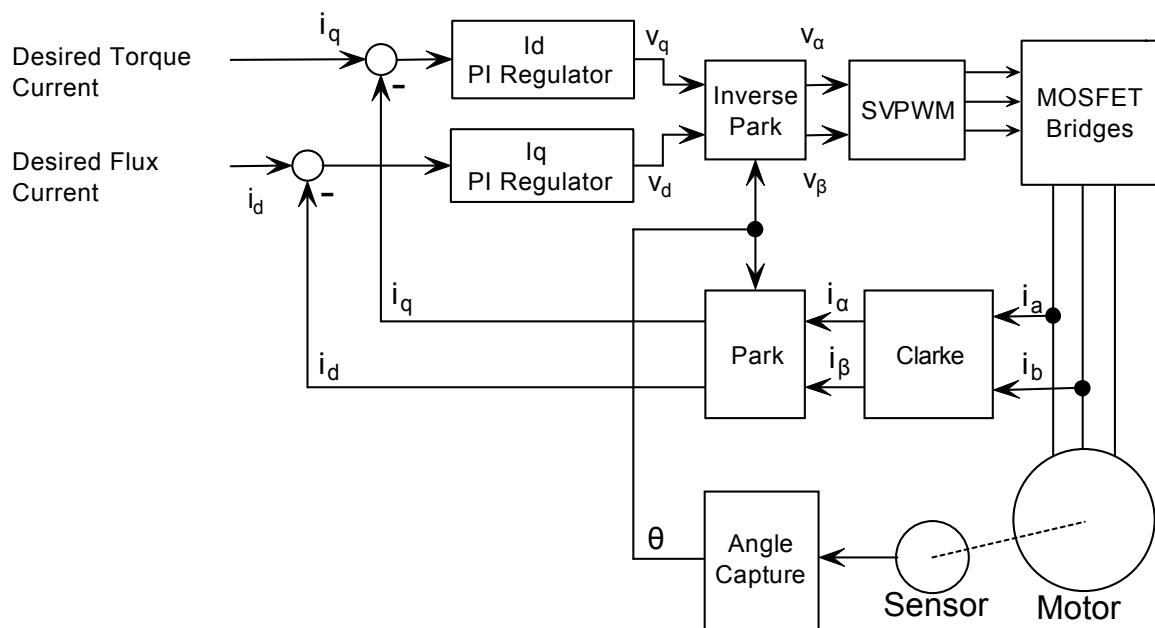

Figure 8-11. FOC operation
Field Oriented Control is available on selected models of Roboteq motor controllers. It uses a classical implementation as described in the figure 8-11. The current in the motor phase is captured, along with the rotor's angle. From this are computed the useful i_q and wasteful i_d . Two Proportional-Integral (PI) regulators then work to control the power output so that the desired Torque (i_q) and Flux (i_d) currents are met. The desired Flux current is typically set to 0, and so the regulator will work to totally eliminate the Flux current.